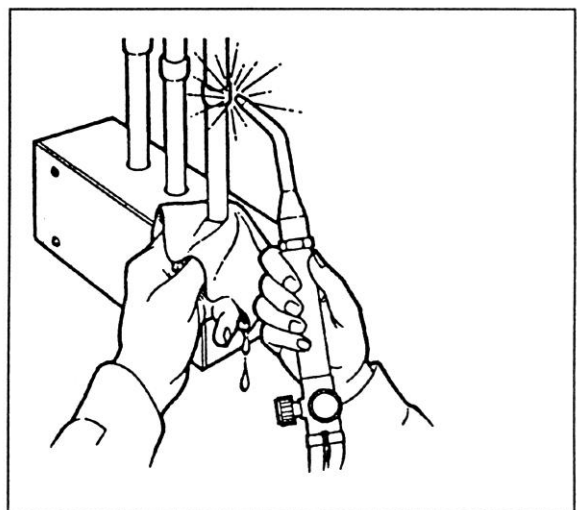

Figure 11 – Minimize Overheating Of Valve
- 4.1.4 For Transducers installed within the back-box, as the connections are being made, identify each line inside the Back Box with the furnished labels. Be careful not to damage the DISS fitting (by over-heating the lower portion) while silver brazing. Wrap the pigtail with a damp cloth or use a commercially available heat sink to minimize over-heating (see Figure 11).